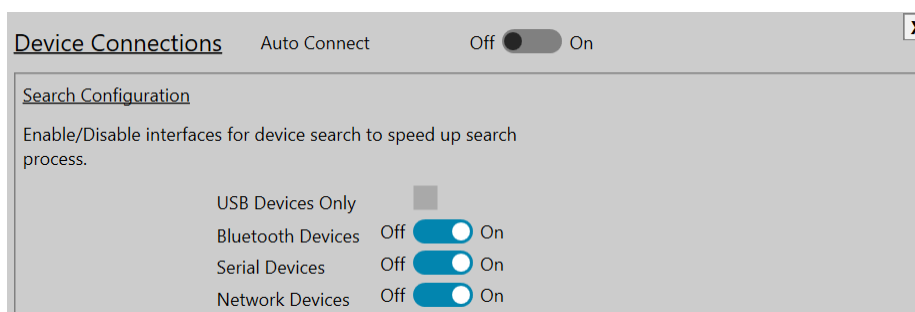

Figure 7 Managing Devices Window - Device Connections
2. Click *Device Connections* to open the Managing Devices window (see Figure 7) for interface configuration.
2. Launch the OPM Software and set the slider for "Network Devices" to On (see Figure 7). The OPM Software will automatically update the available options (see Figure 8).